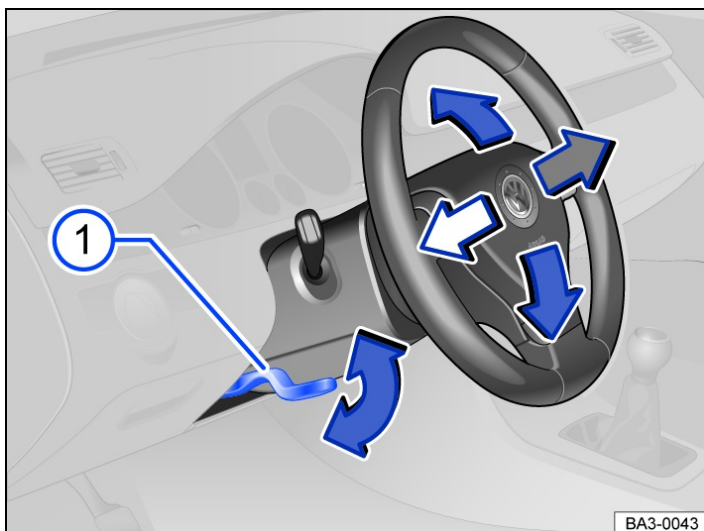

Fig. 1 Below the steering wheel in the steering column trim: lever for mechanical adjustment of the steering wheel position.
- Push down the lever → Fig. 1 ①.
- After adjusting the steering wheel, always move the lever → Fig. 1 ① up firmly. This prevents the steering wheel from moving accidentally while the vehicle is in motion.